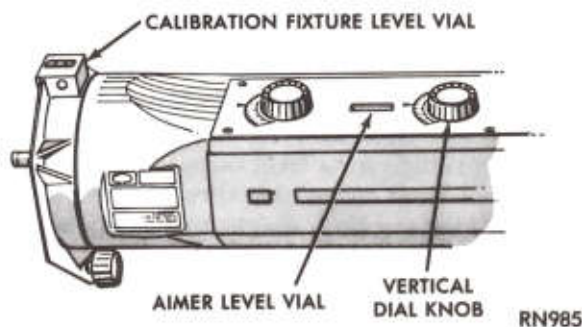

Fig. 6—Checking Vertical Aim Calibration
(5) Rotate thumb adjusting screws on each calibration fixture until level vials on fixtures are centered (Fig. 6).
(6) With both calibration level vials centered turn vertical dial knobs on each aimer until aimer level vials are centered. If aimer vertical dial pointers read between 1/2 up and 1/2 down, aimers are within allowable vertical tolerance. Recalibrate units if beyond these limits (Fig. 6).
(2) Turn vertical adjusting screw (Fig. 6) until the level bubble is centered between the lines (Fig. 9).
(3) Repeat the last two steps on the opposite headlamp.
(4) Re-check target alignment on both aimers and readjust horizontal aim if necessary.
(5) Repeat aiming process for a four headlamp system on the second pair of lamps.
(6) Remove aimers by pressing "vacuum release" button located on piston handle.